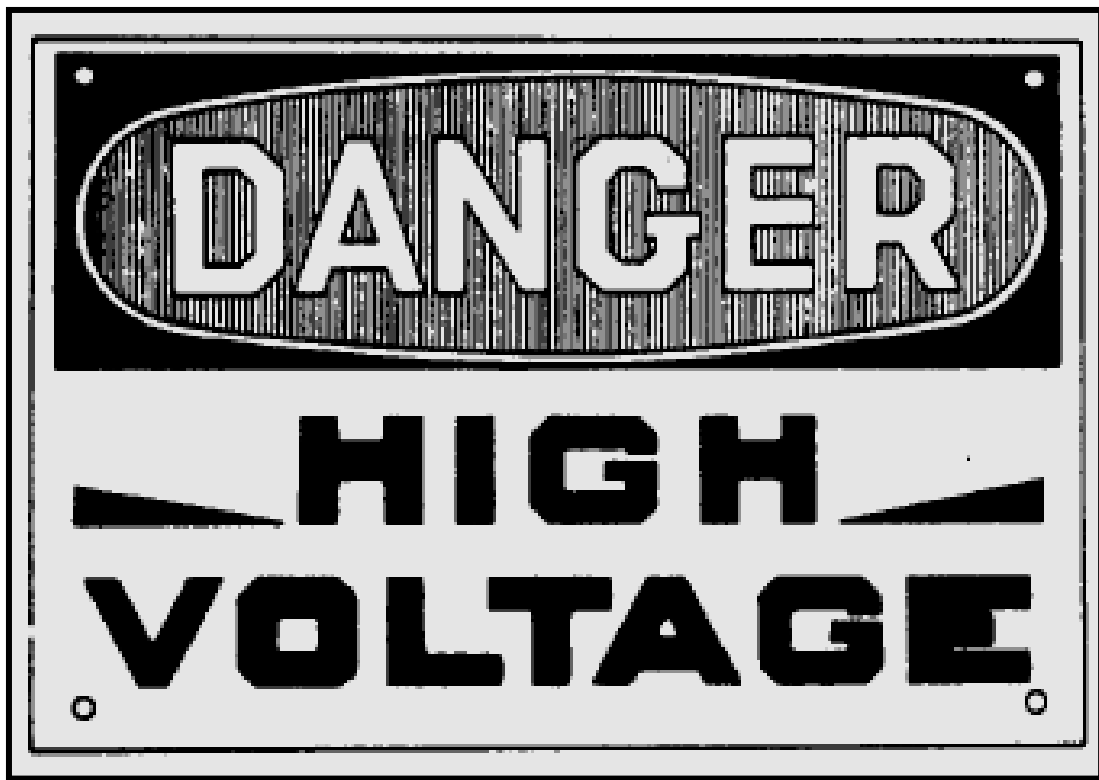

Figure 1-1.-High voltage warning sign.
**DANGER—Shock Hazard** signs are to be used where voltages are between 30 and 500 volts. Where voltages are in excess of 500 volts and where voltages both below and above 500 volts are present, only the danger high voltage warning sign (fig. 1-1) will be used. Appropriate guards should also be installed at these locations.